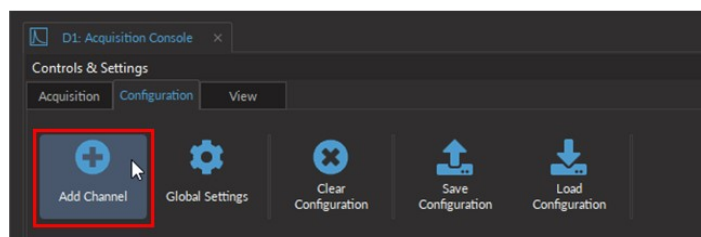
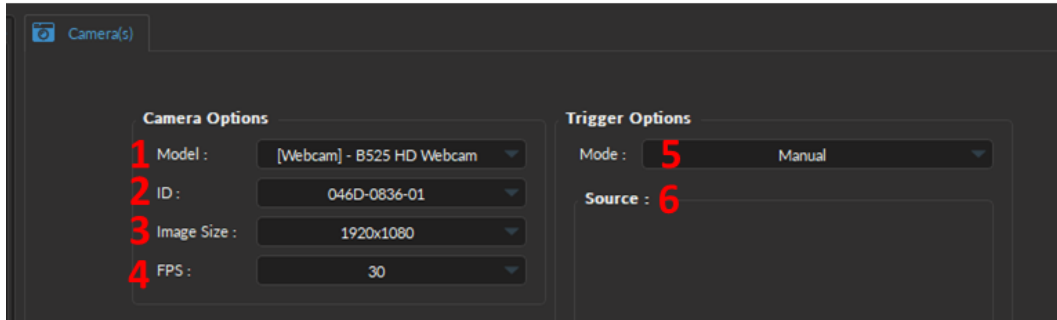

Figure 7.15: Add Channel button opens the Channel Configuration window
Figure 7.16: Channel(s) configuration window, Camera Channel
To create a **Camera Channel** in the **Acquisition Console** module, select the *Add Channel* button, which can be found under the *Configuration* tab (Fig. 7.15). This will open the *Channel(s) Configuration* window (Fig. 7.16).
1. The **Model** (Fig. 7.16, 1) allows you to select the camera of choice based on the type of camera.
2. **ID** drop-down list (Fig. 7.16, 2) selects a camera based on its unique ID. The ID is particularly useful if multiple cameras of the same model are required for the experiment.
3. The **Image Size** (Fig. 7.16, 3) sets the resolution of the image. The larger the number of pixels used for width x height, the better the resolution. Currently, image size can range between 160x120 to 1920x1080 pixels.
4. The **FPS** (Fig. 7.16, 4) specifies the frame rate of the camera (i.e. the number of images displayed per second). FPS can be any value between 5 and 30 for web cameras and up to 60 FPS for the *Doric Behavior Camera*.
5. The **Mode** (Fig. 7.16, 5) sets the type of trigger that will control the camera. Depending on the type of camera, at most three modes are available:
6. The **Source** (Fig. 7.16, 6 & Fig. 7.18) is only used for the **External (Preconfigured)** mode and displays the **Digital I/O** channel with the preconfigured parameters that will be created at the same time as the **Camera Channel** (Fig. 7.18). For a detailed description of each Digital I/O parameter see the corresponding section in the Fiber Photometry System Manual (Section 6.4.3). Briefly, key parameters include: